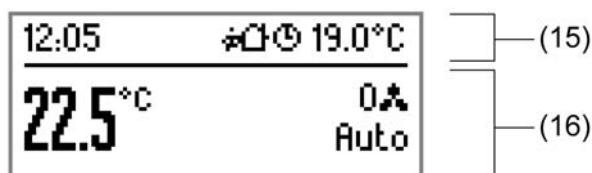

Figure 50: Example of a basic display with two display areas
The device's graphics display has 103 x 40 pixels and is equipped with switchable LED backlighting. The display is subdivided into various display areas, depending on the configuration in the ETS, the operating state and the specific device functions that are activated. A general distinction can be made between 1-area and 2-area display. With two display areas (Figure 50), the upper area of the normal display (15), also called the status line, shows symbols that indicate various operating modes of the room temperature controller or the controller extension. Moreover it is optionally possible to display in the status line the time (left justified) and additional temperature values of the controller extension (right-justified).